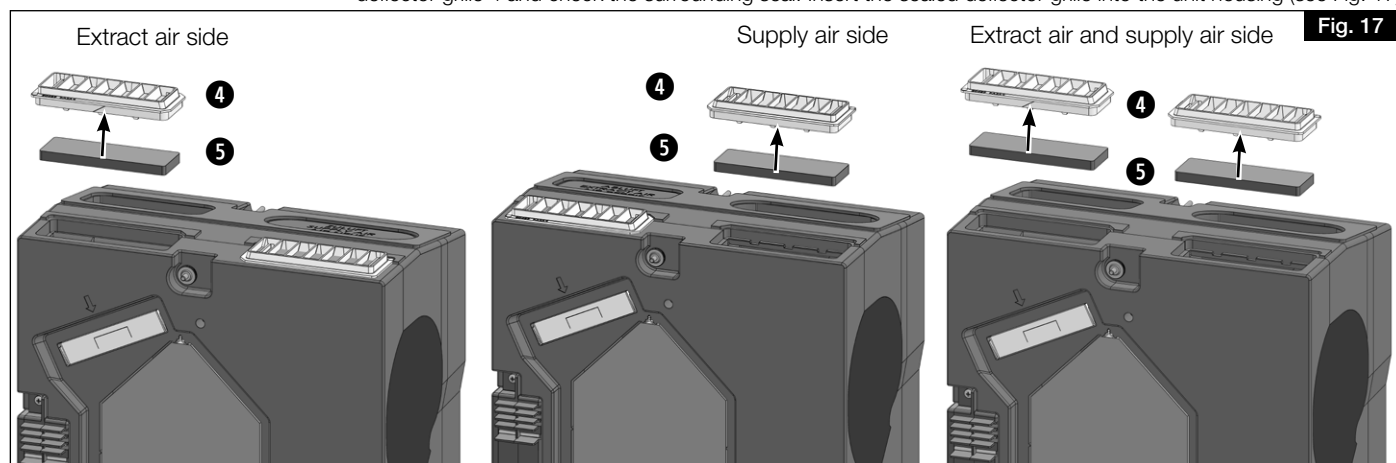

Fig. 17
3. Insert the EPDM sealing cap ⑤ (included in the KWL 70 ZAS second-room connection set) from below into the deflector grille 4 and check the surrounding seal. Insert the sealed deflector grille into the unit housing (see Fig. 17).